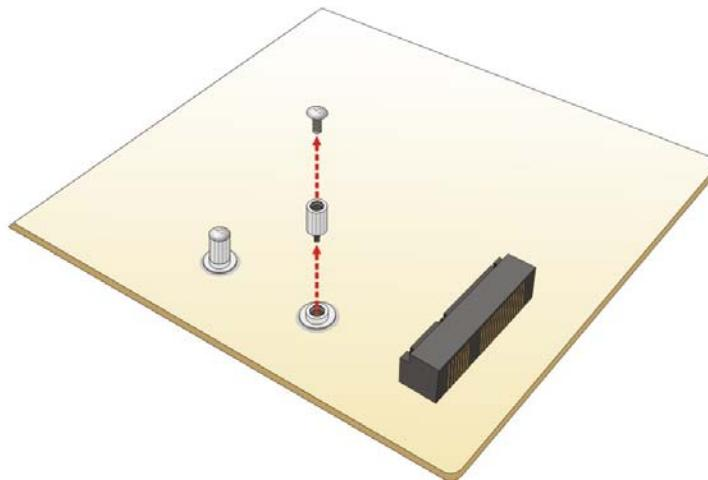

Figure 3-11: Removing the Screw and Standoff for Half-size PCIe Mini Card
Step 3: Remove the retention screw and standoff for a half-size PCIe Mini card. To avoid interference of the board circuit, remove the retention screw and standoff for a half-size PCIe Mini card as shown in **Figure 3-11**.